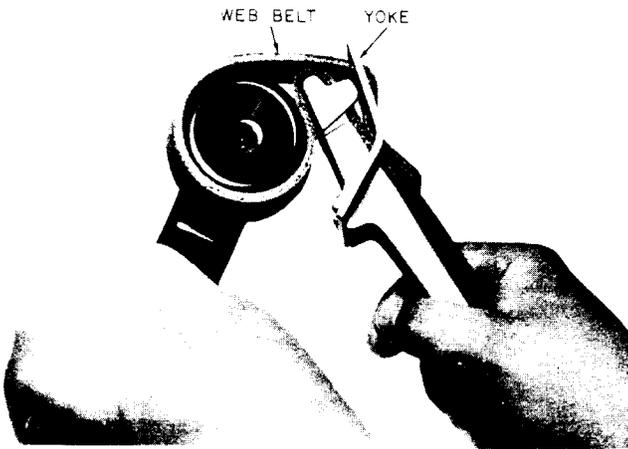

Fig. 4—Correct Positioning of 514-Type Tool
2.06 Use a 514-type tool (Fig. 4) to tighten caps when installing locking devices.